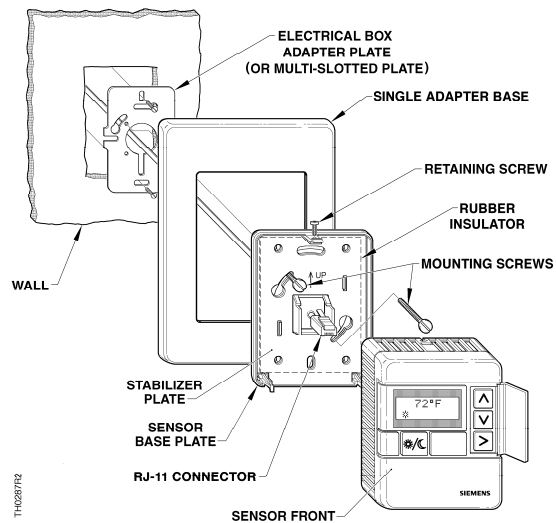

Figure 4. Electrical Box and Rough-in Mounting, Typical.
3. If you have a single-sensor electrical box, install the electrical box adapter plate. See Figure 4.
If you use a universal adapter kit for a retrofit job, install the multi-slotted plate in place of the electrical box adapter plate. See Figure 4.